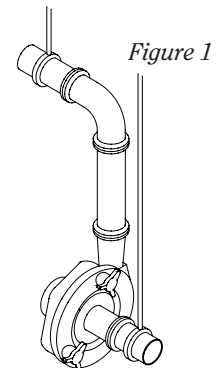

Figure 1
- Ensuring proper piping support and alignment at both the suction inlet and discharge outlet can help prevent serious damage to the stator (*Figure 1*).